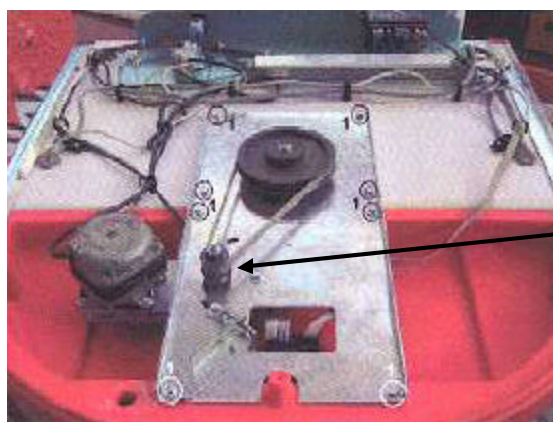

Figure 5
4. Remove the Small Cog Wheel. See Figure 5.
5. Remove the eight (8) screws securing the Motor Gear and Transmission Group Base Plate. See screws marked with a “1” in Figure 5.
2. Carefully lift the Motor Gear and Transmission Group Base Plate up high enough to place the Gear Motor in position. See Figure 5.
4. Install the eight (8) screws to secure the Motor Gear and Transmission Group Base Plate to the top of the Cabinet. See screws marked with a “1” in Figure 5.
5. Install the Small Cog Wheel to the Gear Motor. See Figure 5.